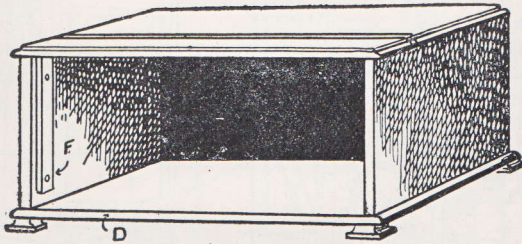

FIG. 1.—SMALL RECEIVING SET CABINET.
In Fig. 1 is a perspective sketch of a cabinet to take a panel 20 ins. by 8 ins., and as in Figs. 3 and 4 we have certain dimensions given it can be calculated how much material is needed for the job. The top (A), sides (B), and back (C) are of $\frac{1}{2}$ in. material when finished. The bottom (D) is $\frac{5}{8}$ in., and a base-board which slides in under the two rebate pieces, but is not illustrated, is of $\frac{1}{2}$ in. This base-board can be of whitewood or deal, if it is dry and not liable to warp, and to this the panel is screwed and the set built up upon it to be drawn out with the panel when required. The following quantities of material will be needed. Suitable woods are mahogany, oak or walnut, or alternatively, satin walnut or American whitewood, both of which stain and polish to a good mahogany or walnut finish.